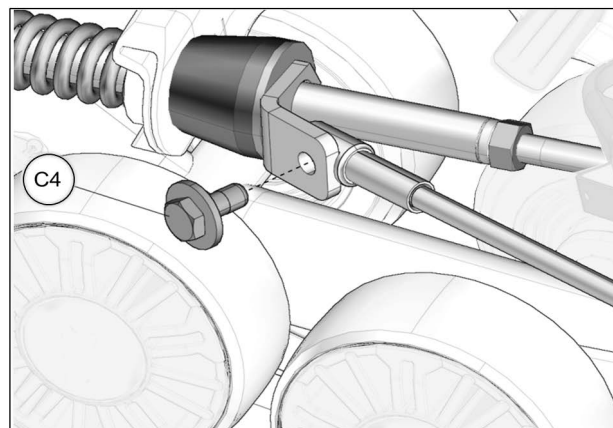

Fig. 28
19. Reverse steering wheel a little to be able to bolt support plate and cable together. Tighten provided bolt (C4) to 35 Nm [24 lb•ft]. See Fig. 28. Repeat steps on right side.